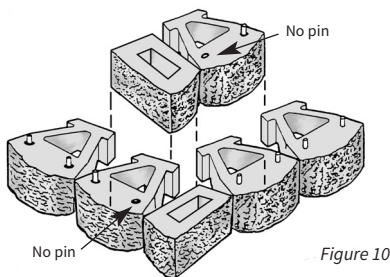

Figure 10
**Outside Corners:** When it comes to building outside corners, Stonewall gives you two choices and both are easy to do. The corners can be a simple convex curve based on a radius discussed previously, or they can be built at a 90° angle. When incorporating 90° corners, you will need to order *Stonewall Corner* units. It is best to start in a corner and build out. Follow these simple steps to construct 90° corners (Fig. 10).